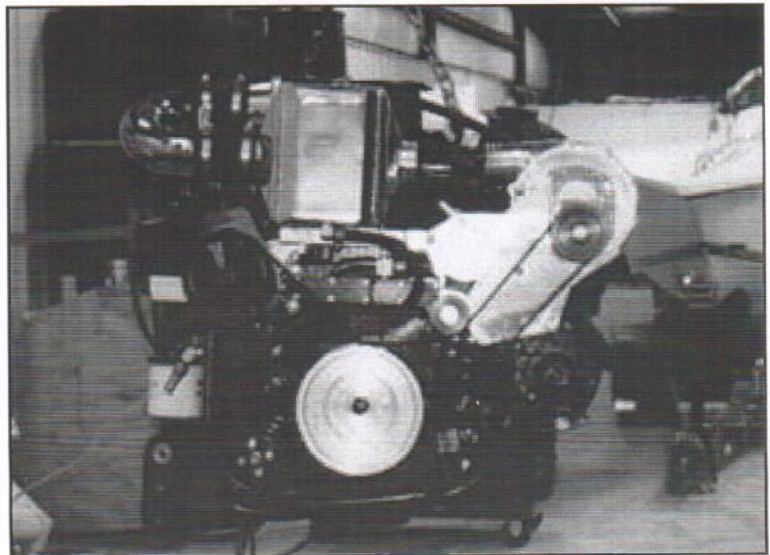

FIGURE H1
1. Carefully review the entire installation (figure H1). Check oil and fuel lines near moving parts and the exhaust system to ensure that these lines are safe, secure and not twisted or kinked. All wires and hoses should be firmly secured with clamps or wire ties. Also, ensure that the inlet screen is installed on the back of the ProCharger.